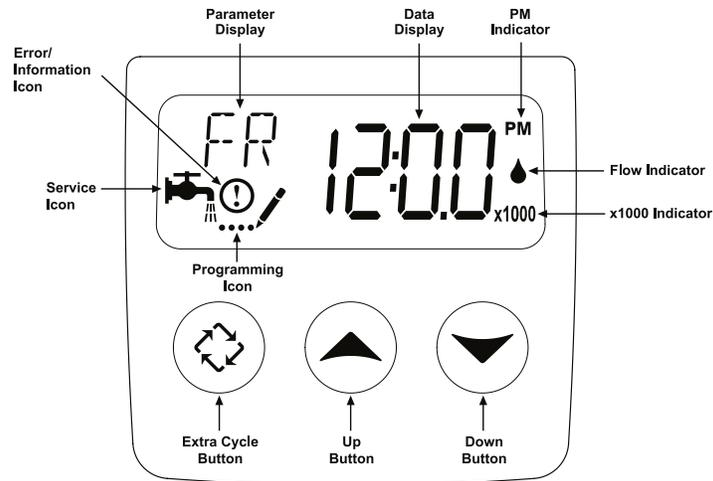

Figure 4A - UPFLOW
- i. Plug the 24-volt transformer into a 120 VAC 60 Hz outlet. This valve has four positions: 1) Brine / slow rinse 2) Backwash 3) Rapid Rinse and 4) Brine Refill. When the valve is in the Service position, the extra cycle button (far left button as shown on Figure 4A) must be pressed and held for 5 seconds to advance the valve into Position 1 - Brine / slow rinse (1...59). Press the extra cycle button again to advance the valve into Position 2 - Backwash (2...9). Slowly turn on the water supply and allow the unit to backwash until the air purges out of the tank and clears the system.